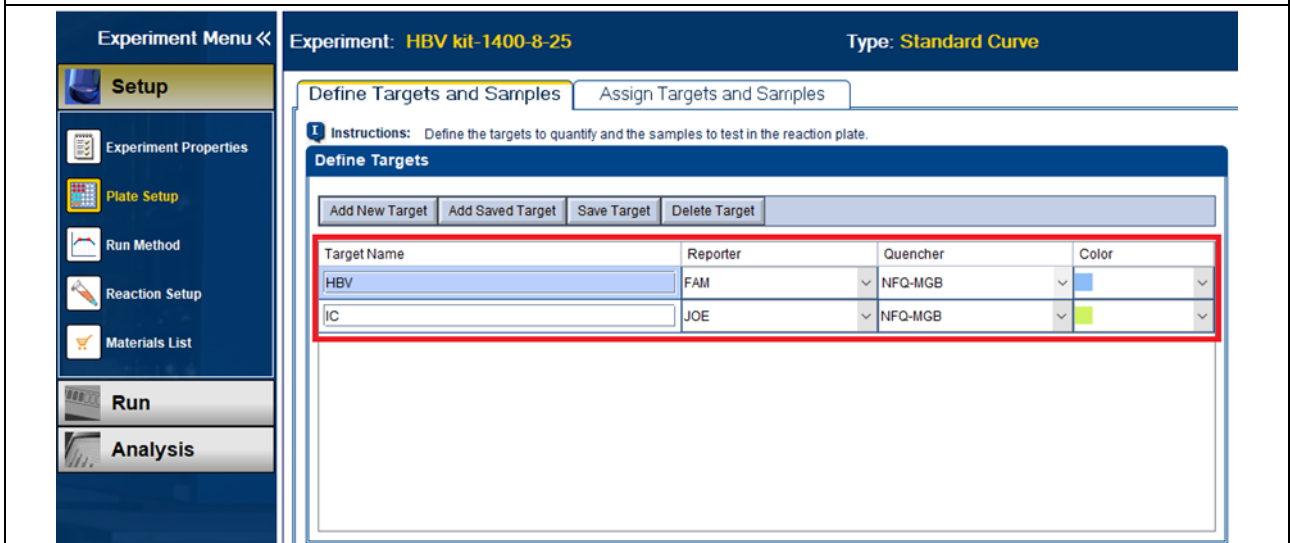

Figure 2: Define color the green and yellow for FAM and VIC/HEX.
- In the next step, click on "plate setup" and define the first and second targets as FAM and VIC/HE, respectively, and identify their colors as green and yellow (refer to Figure 2).